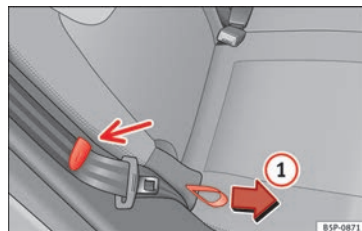

Fig. 81 Folding the rear seat backrests down.
- Pull the loop on the side of the seat » Fig. 81 ①.
When folding and lifting the backrest, make sure to place the side seat belts in the trim clip » **Fig. 81** to prevent them from being damaged by becoming trapped in the backrest lock.